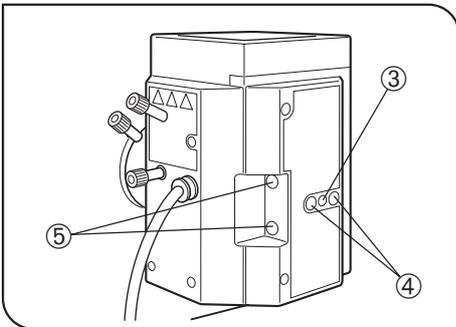

Fig. 36
6. Rotate the lamp centering knob ② to move the arc image on the center of the left (right) half of the field of view. (Fig. B)
7. Fit the tip of the Allen screwdriver into the mirror focus adjustment screw ③ (Fig. 36) on the rear of the lamp housing, and rotate the screw to focus on the mirror arc image. (Fig. C)
8. Rotate the lamp centering knob ② so that the arc image and mirror arc image are overlapped. (Fig. D)